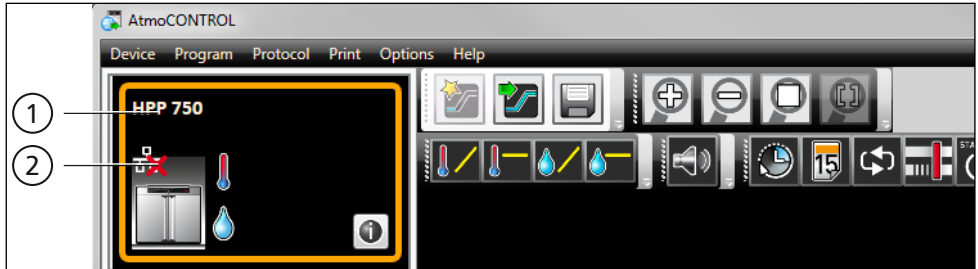

Fig. 1 An appliance of type HPP 750 (1) is registered offline (2) in AtmoCONTROL
- 1 If the appliance is connected to the computer via Ethernet and it has already been logged on once, it is automatically recognised and the current operating state (temperature, alarms) is displayed (Fig. 1).